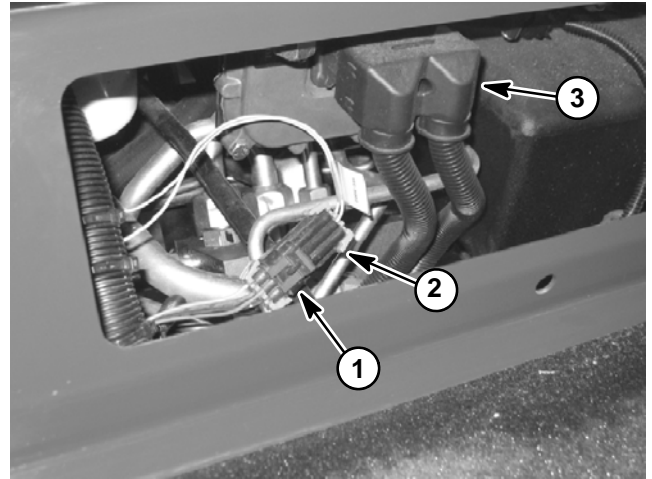

Figure 10
2. Remove plate in front of seat to allow access to wire harness loop-back connector. Locate wire harness and loop-back connector (Fig. 10). Carefully unplug loop-back connector from harness connector.